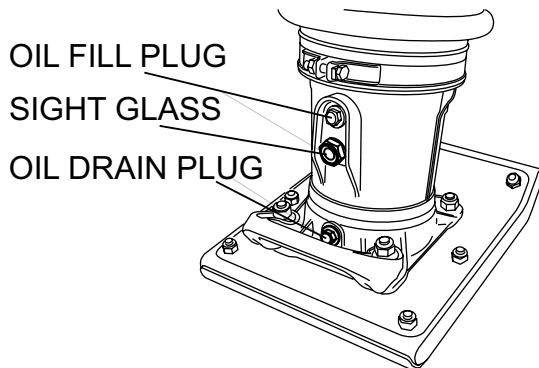

Figure 3. Foot Housing Sight Glass
1. Check the oil level through the oil level sight glass (Figure 3) at the rear of the tamper foot.
2. If oil is not visible, add 10W-30 SE, SF or higher grade motor oil into the oil fill plug opening (Figure 3). The bath contains approximately 0.69 qt. (0.65 liter)